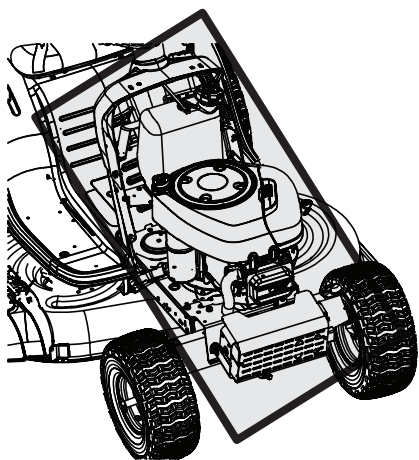

Figure 18
- Clean under the hood, including exhaust manifold, around fuses, all wiring and harnesses, muffler pipe, muffler shield, engine intake screens and cooling fins, etc (Figure 18).